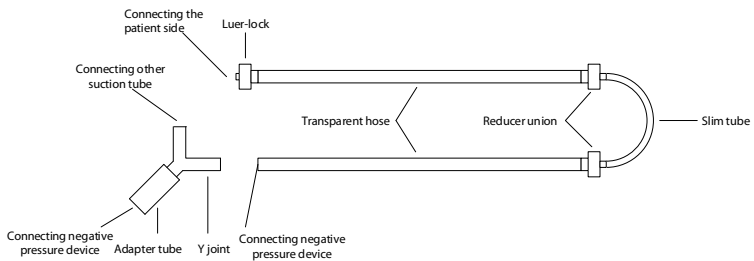

Figure 4-10 Installation of the suction pipe fitting
1. Connect the Luer-lock, transparent hose, adapter tube, and slime tube. As shown in Figure 4-10.
4. Install the transparent hose into the suction bottle of the suction device. To connect multiple suction tubes in a negative-pressure suction device, connect the transparent hose and adapter tube to the Y joint as shown in Figure 4-10. (The adapter tube should be connected to the straight end of the Y joint.) In this way, the adapter tube can be connected to the negative-pressure suction device, and the other end of the Y joint can be connected to other suction tubes. See Figure 4-10.